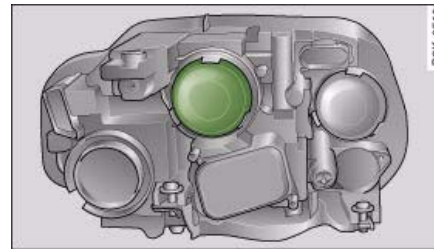

Fig. 294 Headlight unit: Cover
- Take off the cover ⇒ *page 308*, fig. 294 ⇒ ⚠ in "Changing bulbs" on *page 304*.